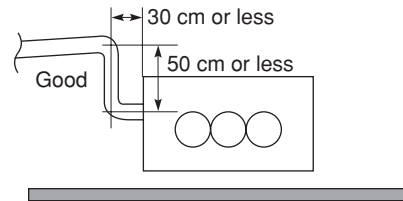

Fig. 3-91
- If it is necessary to increase the height of the drain pipe, the section directly after the connection port can be raised a maximum of 50 cm. Do not raise it any higher than 50 cm, as this could result in water leaks. (Fig. 3-91)